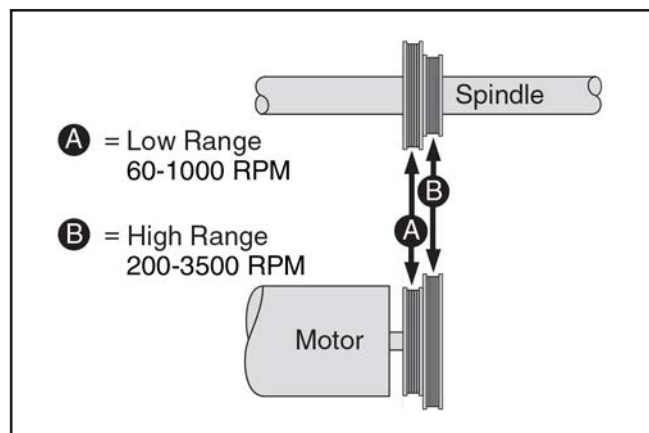

Figure 41. Speed range belt positions.
5. Reach into belt access cavity and roll belt onto desired set of pulleys, as shown in **Figure 41**.